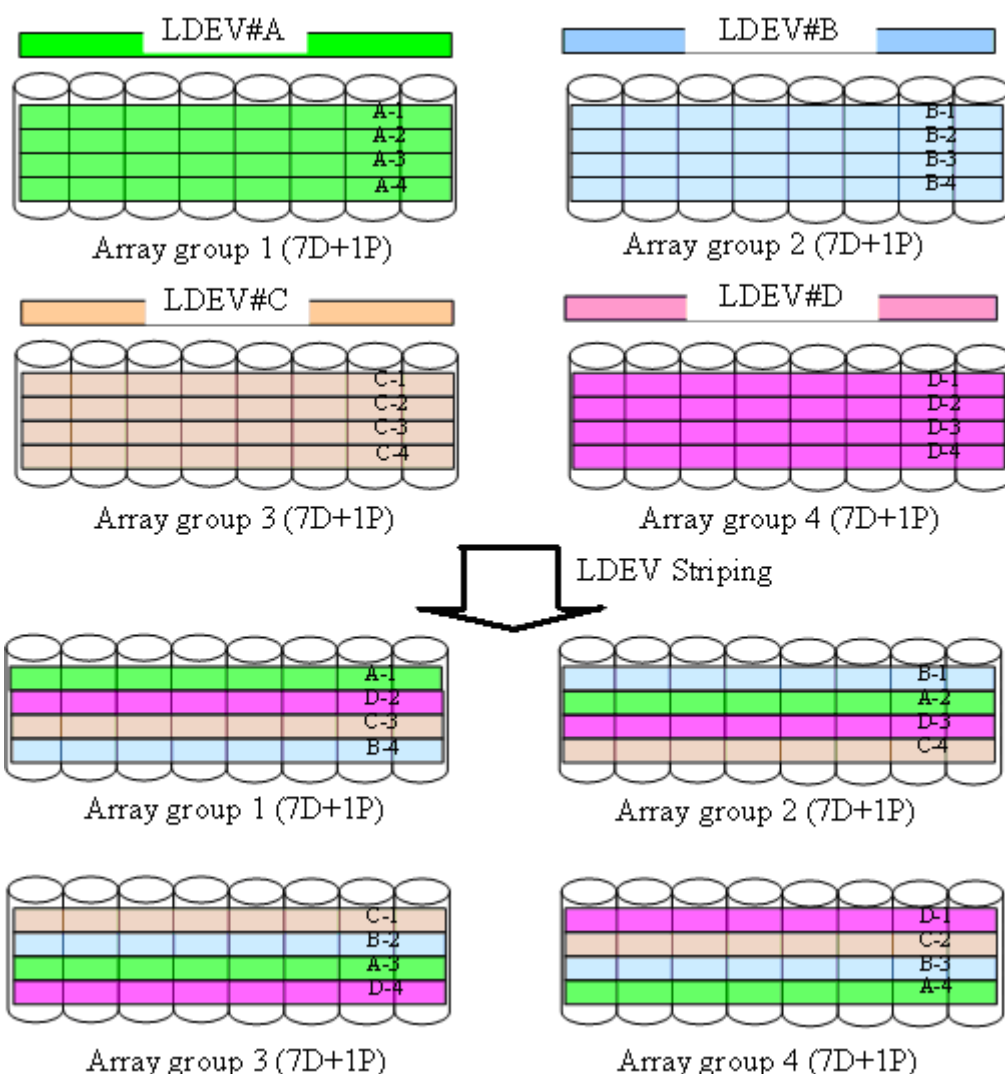

Figure 2-5: LDEV Striping Across 4 RAID 5 (7D+1P) Array Groups
- LDEV striping across four RAID 5 (7D+1P) array groups. The maximum number of LDEVs in this configuration is 2000. See Figure 2-5: LDEV Striping Across 4 RAID 5 \(7D+1P\) Array Groups on page 2-10.